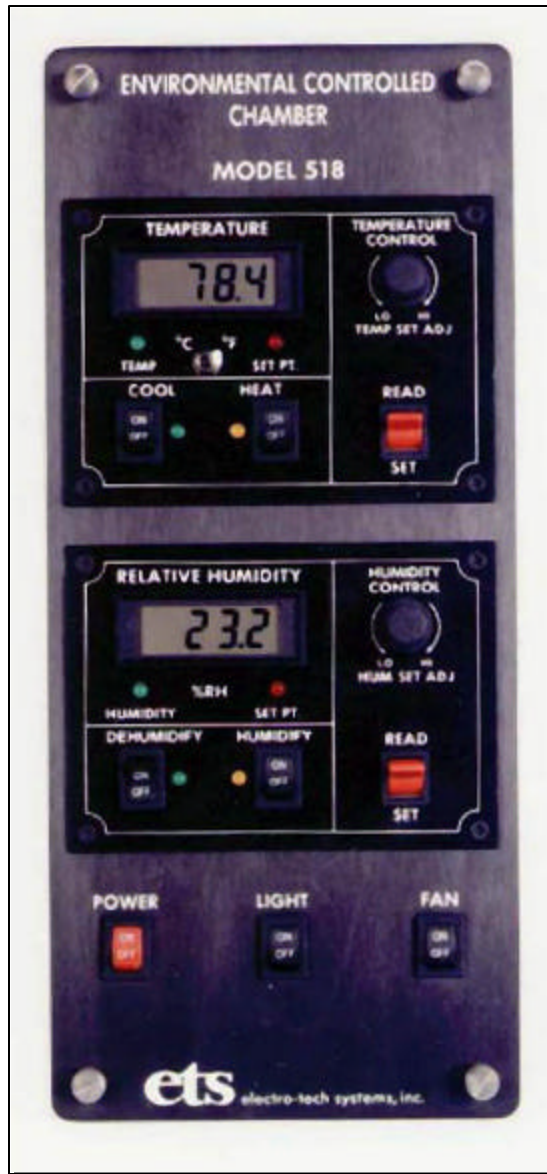

Figure 3.2-1 Control System Front Panel
The Control Unit, shown in Figure 3.2-1, is a completely self-contained system that incorporates the Automatic Humidity and Automatic Temperature control modules mounted onto the front panel, along with the system, light and fan power switches. The entire unit mounts to the Chamber by four (4) #6-32 captive fasteners. All connections to other components within the Chamber are made by either DIN or Molex connector interface to the rear panel. A 115/230 VAC selector switch is located on the rear panel to set the Controller for either 115 or 230 VAC operation.